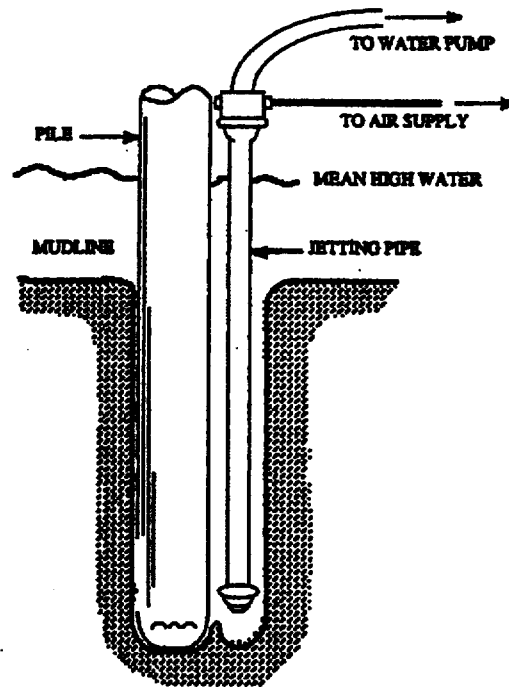

Fig. 10-2 Jetting with a single jet pipe
- a Jetting is the use of water pressure supplied through a pipe along the side of the pile to facilitate pile driving (See **Figure 10-2.**) The purpose of jetting is to loosen the soil under the point by water pressure. It is most useful in sinking piles when pile driving equipment is lacking. It may be used alone or with compressed air or a weighted pile. A weighted pile is one with a sinker, or other heavy object, resting on top of the pile.